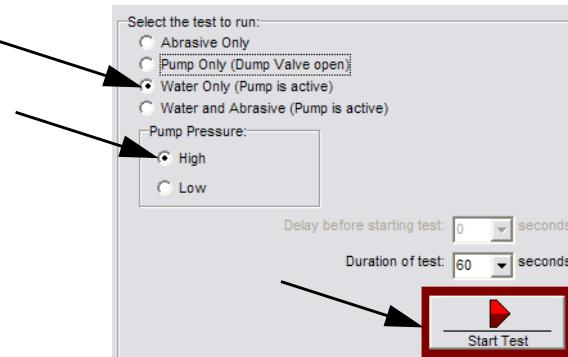

Figure 3-29
- c. In **Make**, click the **Test** button (Figure 3-29) to display the **Test Pump and Nozzle** options:
- h. Click the **Start Test** button to start the nozzle test (Figure 3-29) in high pressure mode.